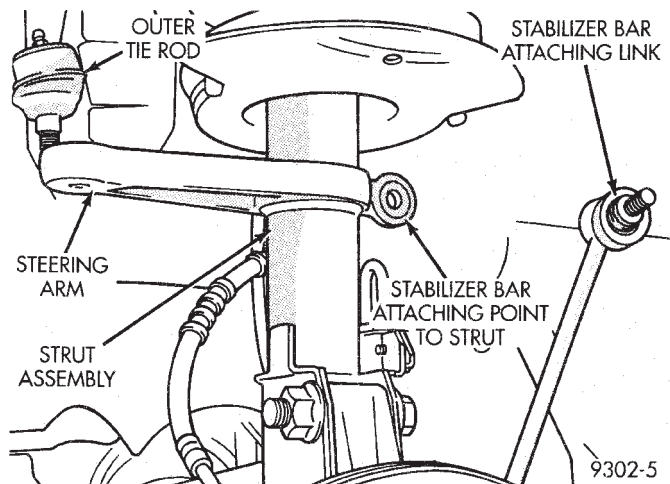

Fig. 1 Tie Rod And Stabilizer Bar Link Removed
(1) Raise vehicle on jackstands or centered on a frame contact type hoist. See Hoisting in the Lubrication and Maintenance section of this manual, for the required lifting procedure to be used for this vehicle.
(2) Remove front wheel and tire assembly from the vehicle.
(3) Remove the stabilizer bar attaching link at the strut assembly (Fig. 1).